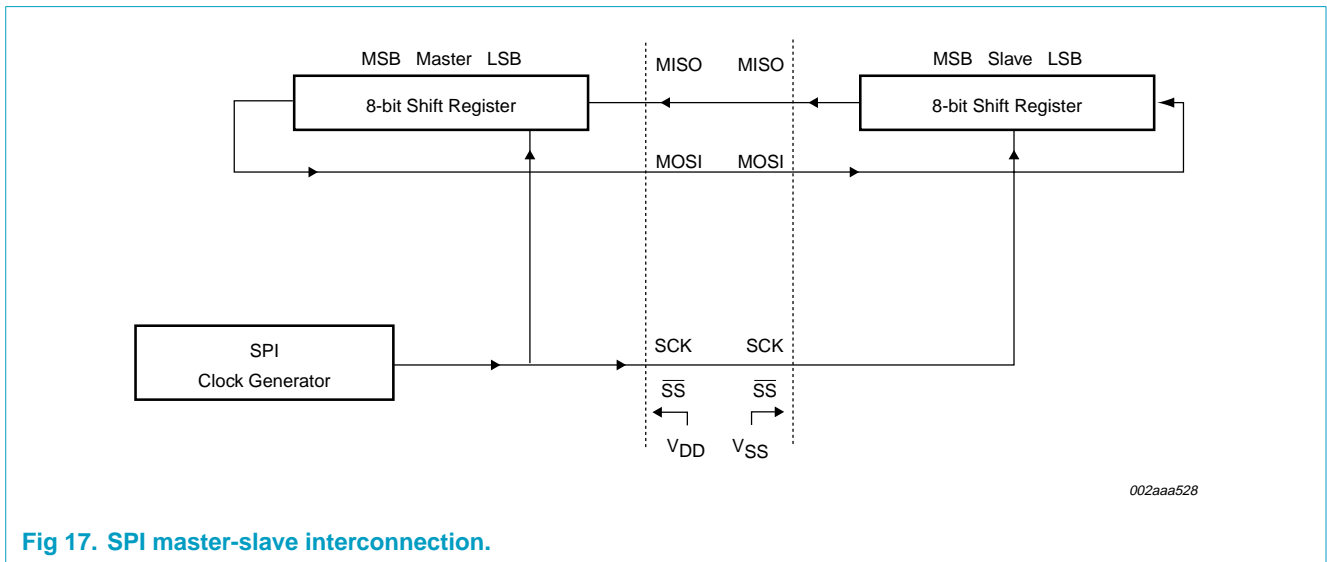

Fig 17. SPI master-slave interconnection.
The serial peripheral interface (SPI) allows high-speed synchronous data transfer between the P89LV51RD2 and peripheral devices or between several P89LV51RD2 devices. **Figure 17** shows the correspondence between master and slave SPI devices. The SCK pin is the clock output and input for the master and slave modes, respectively. The SPI clock generator will start following a write to the master devices SPI data register. The written data is then shifted out of the MOSI pin on the master device into the MOSI pin of the slave device. Following a complete transmission of one byte of data, the SPI clock generator is stopped and the SPIF flag is set. An SPI interrupt request will be generated if the SPI Interrupt Enable bit (SPIE) and the Serial Port Interrupt Enable bit (ES) are both set.